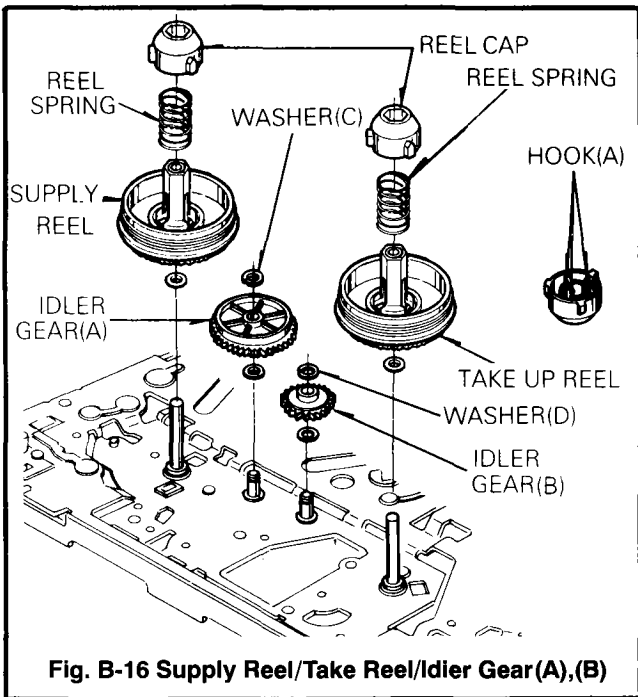

Fig. B-16 Supply Reel/Take Reel/Idler Gear(A),(B)
16. Supply Reel Assembly(Fig. B-16)
17. Take Up Reel Assembly (Fig. B-16)
18. Idler Gear (A),(B) (Fig. B-16)